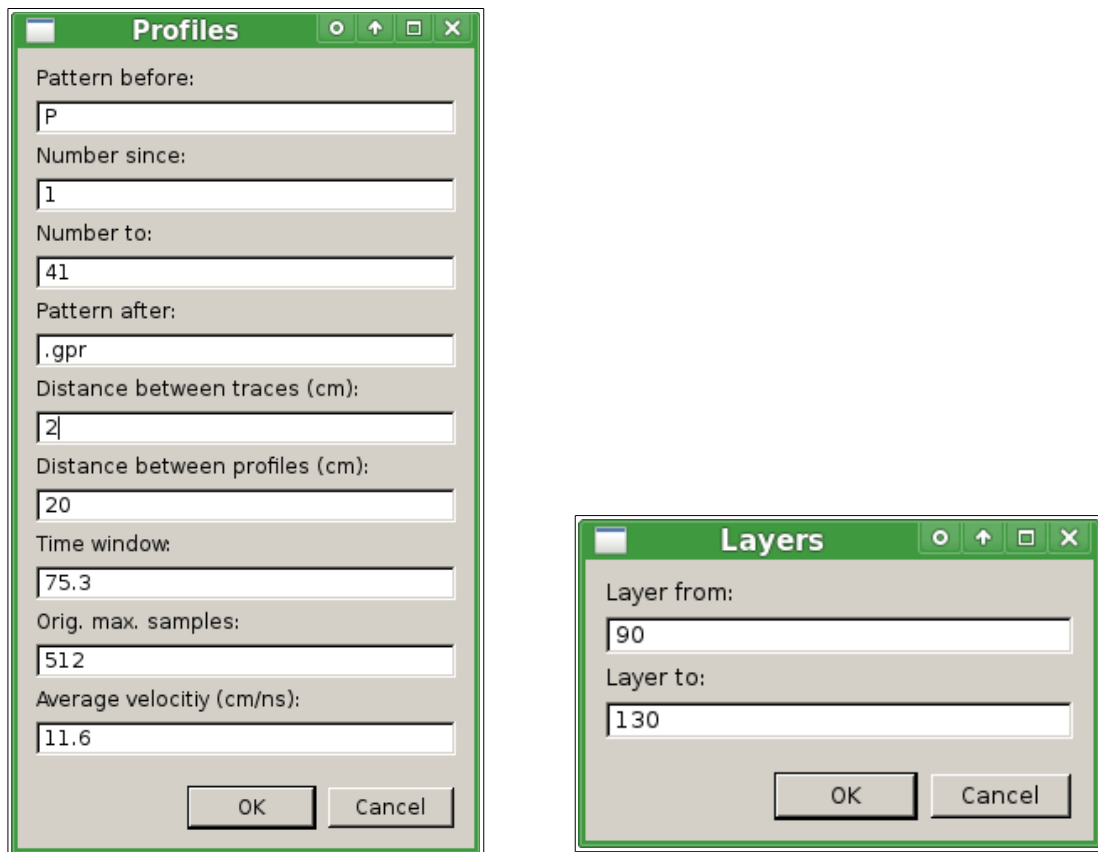

Figure 38. Example of the setting up of the .gpr.xyz files.
**Set up XYZ files** needs more information than the previous processes. To set the right three dimensional geometry we need to know the distance between traces (it can be read in any *.rad* file in the eleventh row called *DISTANCE INTERVAL*, but be aware that this datum is in meters), the distance between profiles (if the distance is not always the same you will have to setting up the XYZ files in several phases), the time window (the nineteenth datum in a *.rad* file), the original maximum number of samples (before the time-zero cut) and the average velocity (figure 38). We will also have to select the horizontal layers between which we want to draw. The new files will have the extension *.gpr.xyz* (figure 39). We can open them with a application for managing 3D point clouds like *CloudCompare* or *MeshLab*.